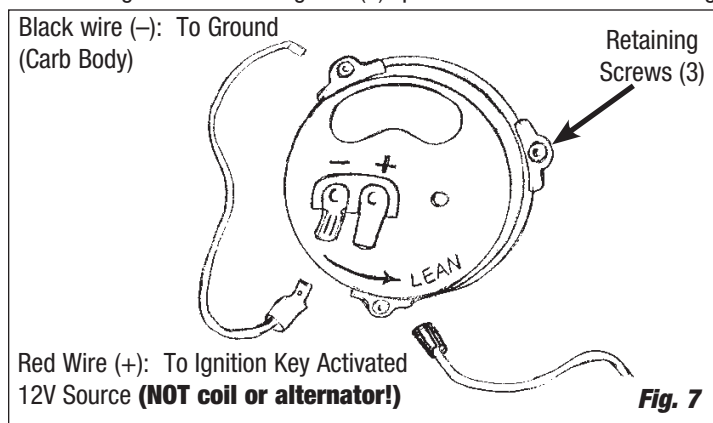

Fig. 7
3. On electric choke models (See Fig. 7), remove one choke housing retaining screw and install eyelet end of choke ground wire (black) to the choke housing, and reinstall the screw. Connect clip end of choke ground wire to negative (-) spade terminal on choke housing.
- Manual choke: Connect manual choke cable to the choke lever cable mounting bracket (See Fig. 9). Electric choke: Connect the red choke wire to a 12 volt positive (+) source that is activated by the ignition switch (**Not the coil or alternator; see Fig. 7**).